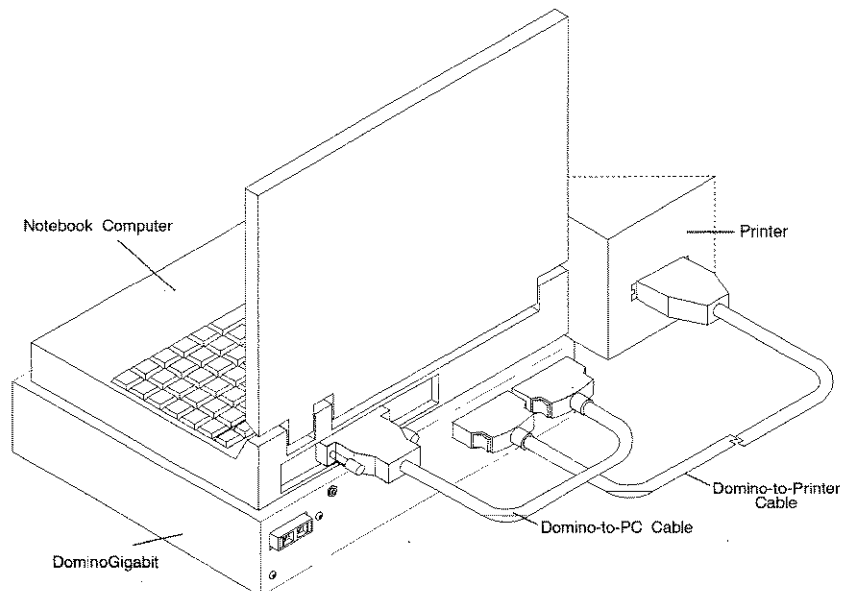

Figure 2-1. DominoGigabit Analyzer hardware configuration
1. From the Workbench screen (Figure 2-1), click **Monitor**.